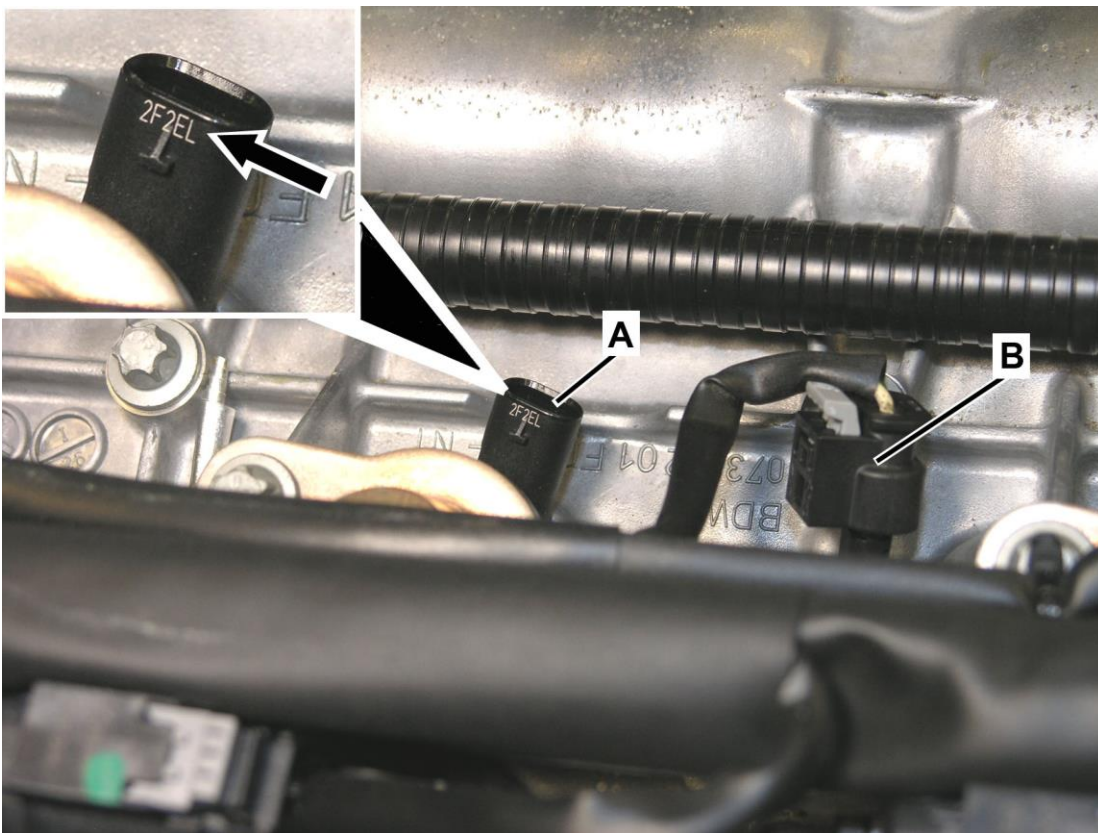

Figure 4
Injector code (arrow, Figure 4) can be read by disconnecting engine harness connector (B) from injector (A).